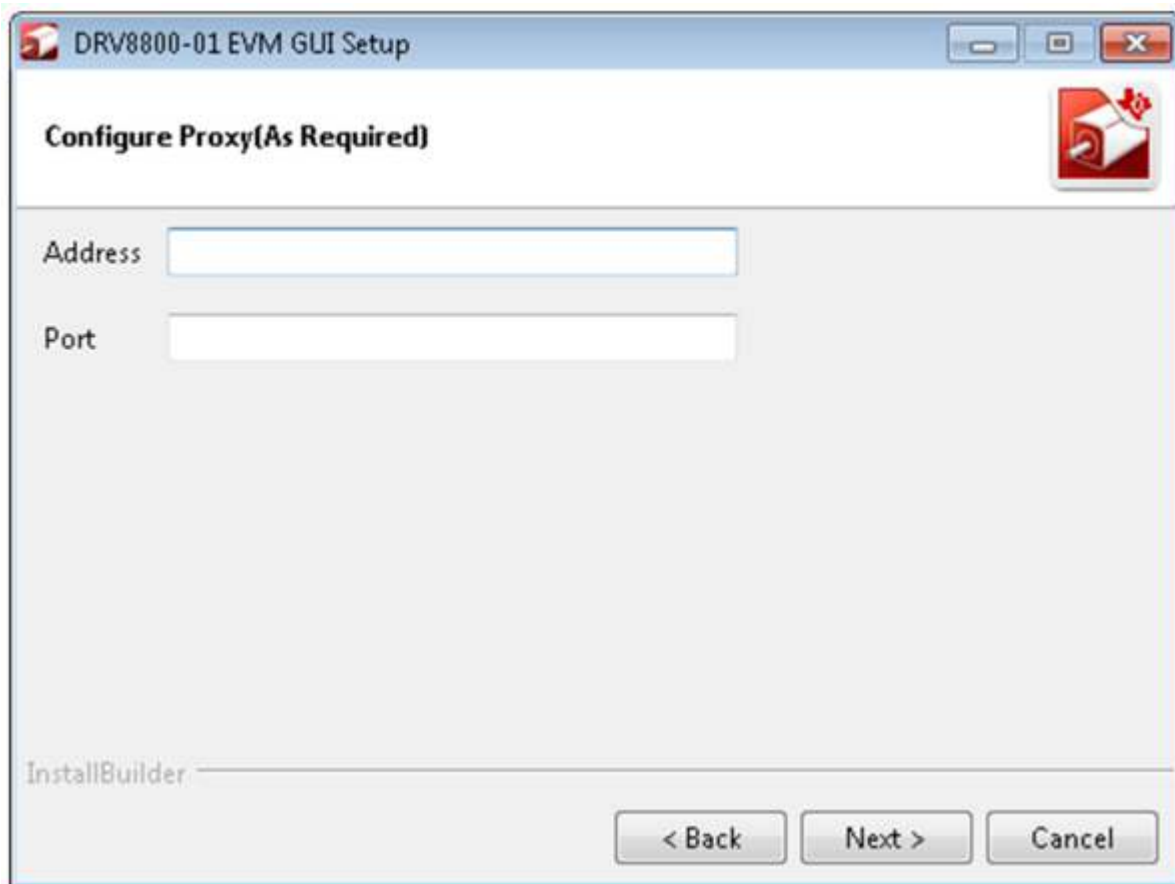

Figure 8. Configure Proxy
- If LabVIEW RTE is selected as a component to install, a screen appears as shown in Figure 8. Configure the proxy settings as required. This screen is to download the LabVIEW RTE 2014 from ni.com, Click **Next** to continue the installation.